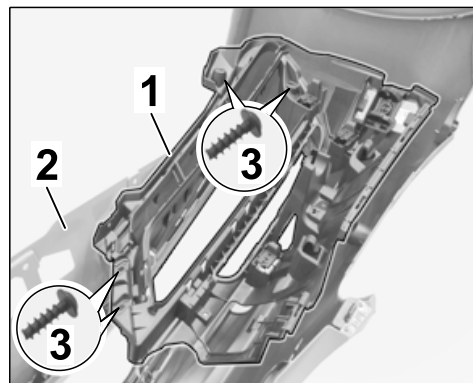

Figure 20
- 5.4 Clip air grille at the left $\Rightarrow$ *Figure 20 -2-* and right into the front apron $\Rightarrow$ *Figure 20 -1-*.
Secure with four oval-head screws (999.919.246.01) $\Rightarrow$ *Figure 20 -3-*.